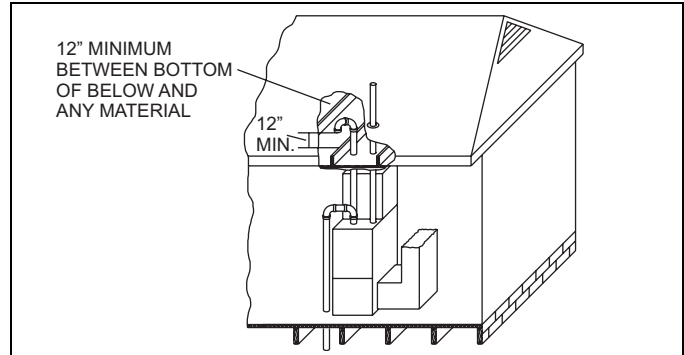

FIGURE 18: Attic and Crawl Space Combustion Air Termination
3. **VENTILATED COMBUSTION AIR:** Combustion air is supplied through a PVC or ABS pipe that is connected to the PVC coupling attached to the burner box and is terminated in a ventilated attic or crawl space. The combustion air and the vent pipes are not terminated in the same atmospheric zone. Refer to Figure 18 for attic and crawl space termination. Only the combustion air intake may terminate in the attic. The vent must terminate outside.
Refer to Figure 18 for required attic termination for the combustion air intake pipe. For attic termination, use two 90 elbows with the open end in a downward position. Be sure to maintain 12" (30 cm) clearance above any insulation, flooring or other material.